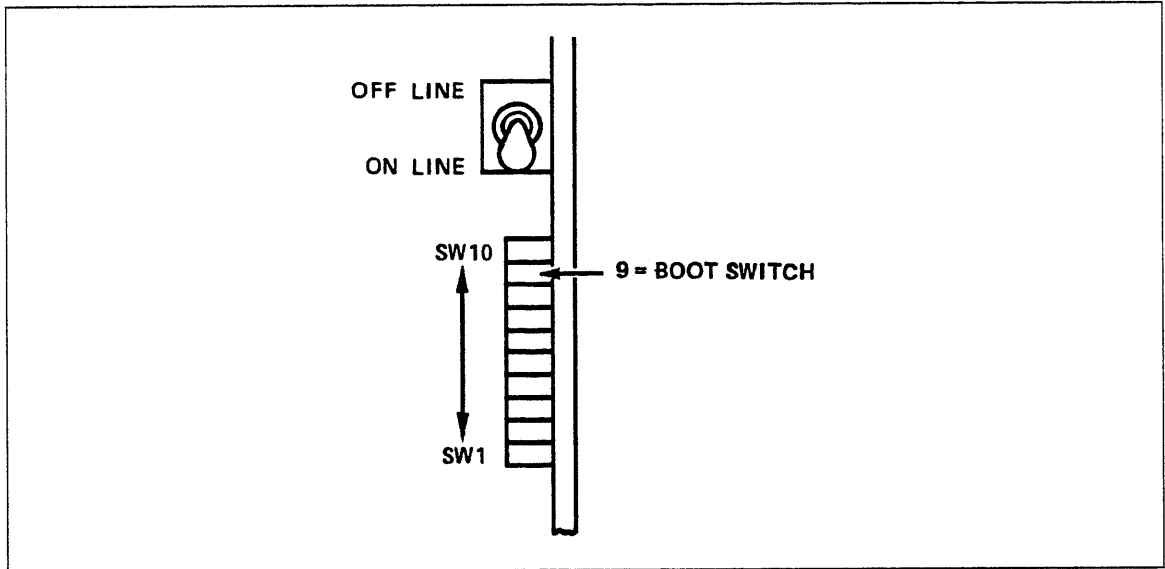

Figure 3-49. ESCI Configuration Switches
3. Set Online/Offline toggle switch to Online by pulling out and pressing down on switch (figure 3-49).